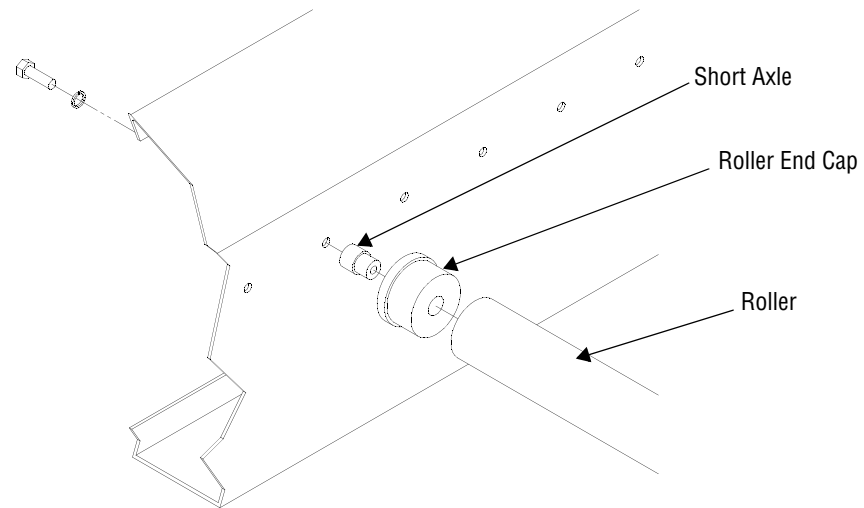

Figure 5-2. Removing Roller (Fixed End)
- d. Lift fixed end up and away from short axle (see Figure 5-2).
- d. Align roller on fixed end cap. Slide and push firmly into place (see Figure 5-2).